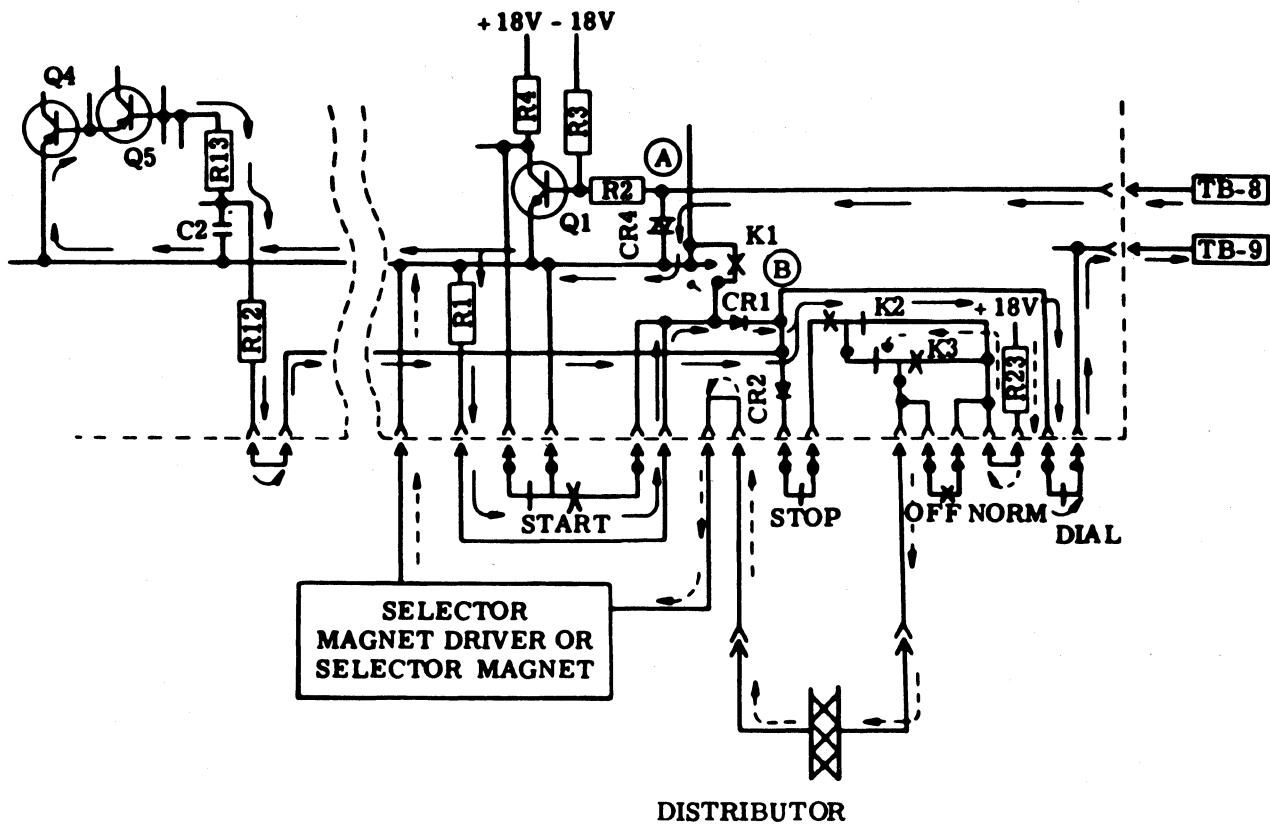

Figure 8 - Local-Remote Control Circuit – Current Flow (Idle)
3.25 The schematic diagram of the local-remote control circuit (Figure 8) shows the current flow during the idle line condition. In this state, all relays and lamps are off. This requires that transistors Q3, Q6, and Q9 be off and that Q2, Q4, and Q8 be in conduction. The output transistor of the motor delay timer is off, and the selector magnet driver is marking.
3.26 The signal loop is a 240-volt source with 4000 ohms in series. In the idle condition the local-remote control offers 43,800 ohms of local resistance to the signal loop. The flow of loop current in this condition is shown in Figure 8. Current flows from TB8, the positive idle terminal, across CR4, through R1 and CR1 in parallel with the base emitter junction of Q4 and Q5, R13 and R12. From this point, current flows through the dial pulse contacts to terminal TB9.
3.27 The loop current develops a positive potential at A in Figure 8 holding Q1 on. The collector of Q1 is shorted to ground through START pushbutton contacts 1 and 2. Therefore, no signal may be developed at the collector unless the START pushbutton is depressed. The loop current develops approximately a -200 volt potential at point B. This potential will hold Q4 in conduction while holding Q6 and the connect circuit off.
and the unit to revert to the idle line condition. The current loop is shown in Figure 8.
**3.33 Remote Connection:** On an incoming call, the teletypewriter may be connected remotely while in the idle line or local conditions. The loop path is shown in Figure 8 for both of these conditions. The incoming call causes the exchange to reverse the loop polarity. This causes the potential at the junction of CR1 and CR2 to change from -200 volts to approximately +200 volts. The potential causes the connect circuit to operate as described in 3.32
**3.35 Local Disconnect:** Operation of the STOP pushbutton while in the connect condition opens contacts 4 and 5 which are in series with the loop, and breaks the loop. When the exchange recognizes the break, it reverses the loop polarity. The reverse polarity is blocked by CR2, and current flows through CR1 along the path shown in Figure 8. At point A a -200 volt potential is developed due to the current flow described in 3.26 through 3.28. This potential causes the connect circuit to turn off and the teletypewriter stops running open. The input to the motor delay timer becomes negative, and the timer will time out. After 0.55 second the motor control relay releases, and the motor will turn off.